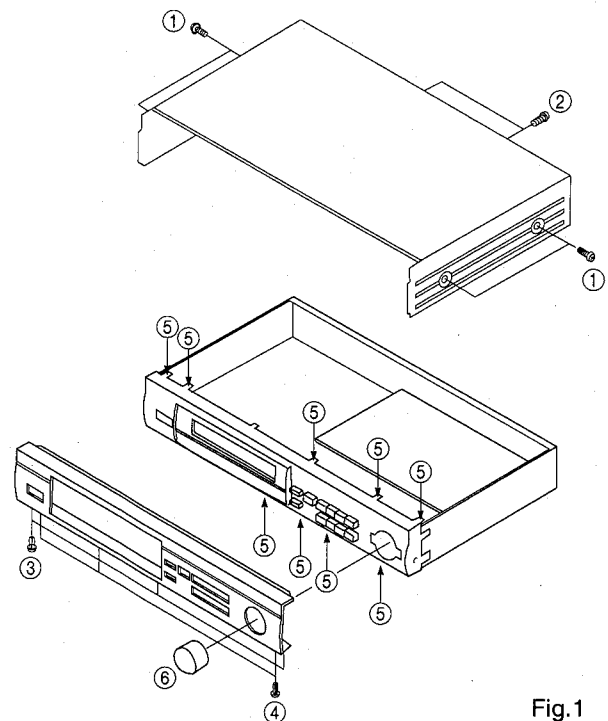

Fig.1
Remove 4 screws (①) and 2 screws (②) in Fig. 1.
- Remove 3 plastic rivets (③) in Fig. 1.
- Remove 3 screws (④) in Fig. 1.
- Remove tuning knob (⑥) in Fig. 1.
- Unhook at 9 place (⑤) in Fig. 1 and remove the front panel.